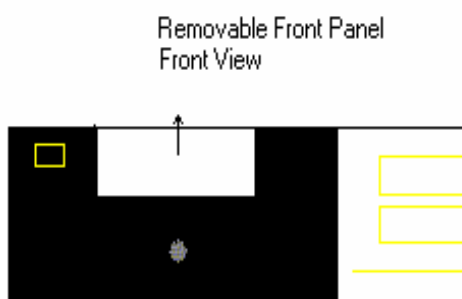

Figure-16 Removable Front Panel Front View
- Step 9 Remove the front panel by sliding the panel up and out (Figure-16).
- ⇒ Remove the Front Panel (Figure-16).
- Step 6 Remove the front panel by sliding the panel up and out (Figure-16).